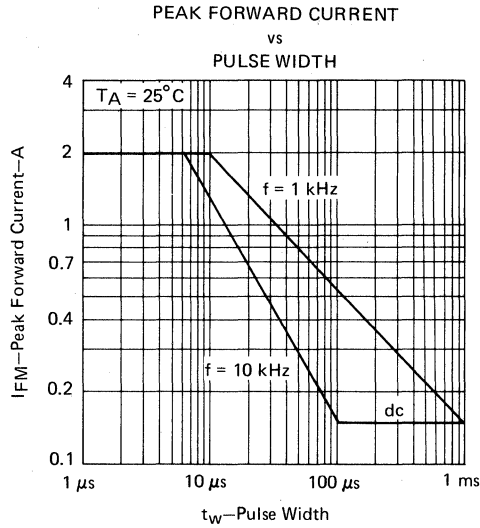

FIGURE 1
2. This value applies for $t_W \leq 10$ μ s, $f \leq 1$ kHz. See Figure 1.